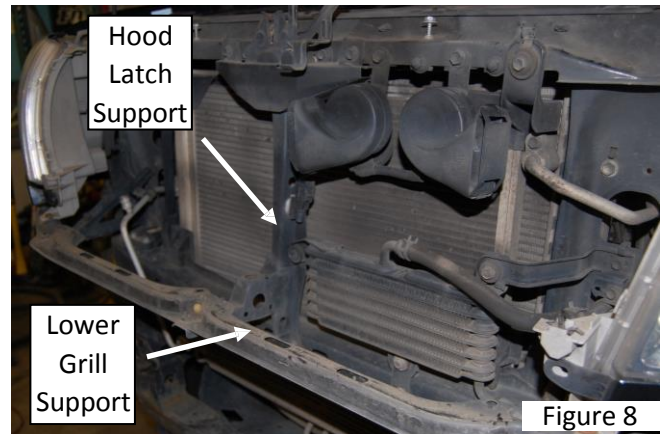

Figure 8
2. Depending on the size of your winch, you may have to remove the lower grill support for clearance. You may also have to remove, or loosen the hood latch support at the middle of the radiator. See **Figure 8**.